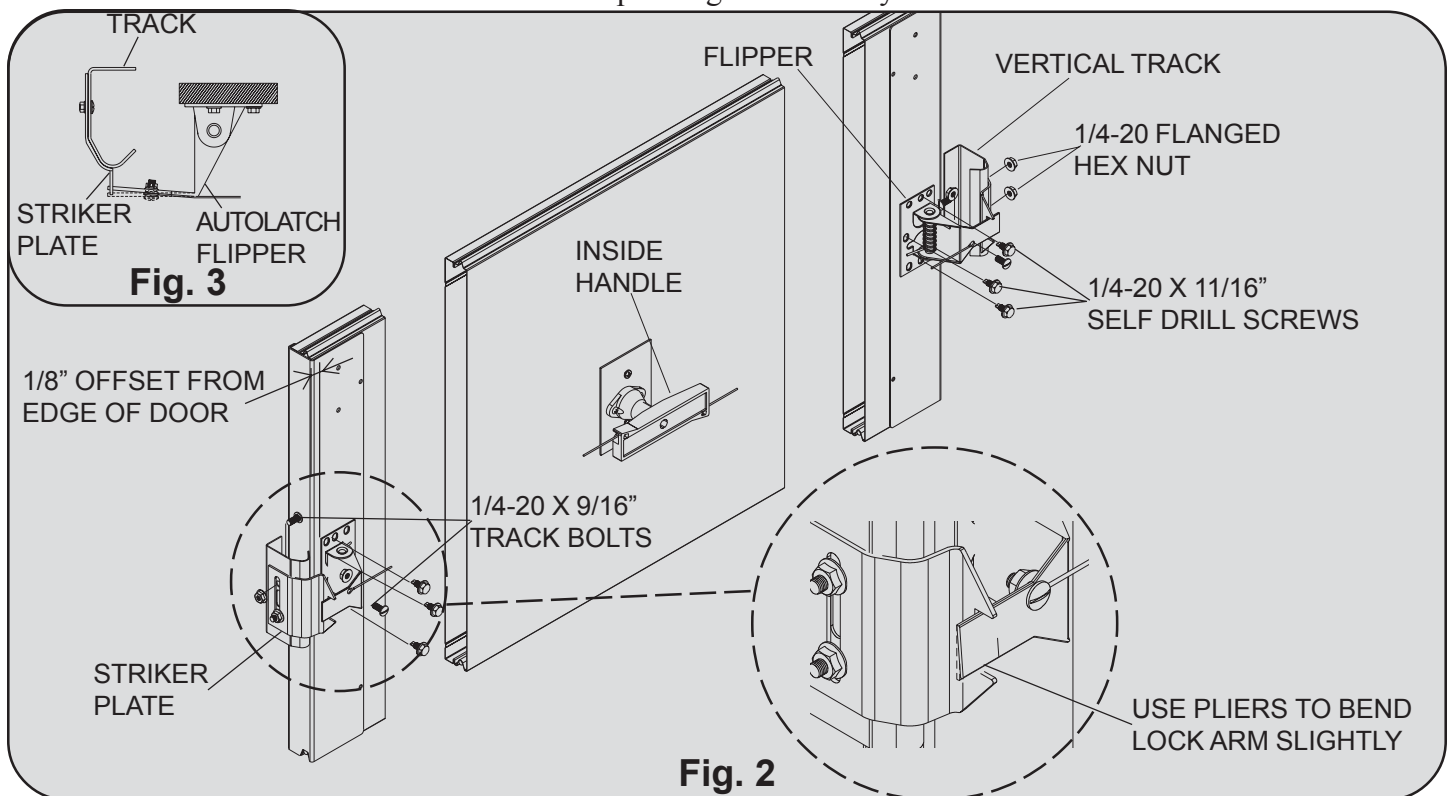

Fig. 2
8300/8500 Series & Wood doors (see Fig.2), place the lock section face up on (2) padded sawhorses for a single car door or (3) padded sawhorses for a double car door. Locate the middle of the center stile, measure the distance from the end of the section to the middle of the center stile. Turn the section face down, transfer the measurement and mark a light vertical line, then mark a horizontal line at half the section height. Align the 7/16" diameter hole of the lock backup plate at the intersection point of the horizontal and vertical marks, use the lock backup plate as a template to mark the (3) holes, remove the lock backup plate and drill (3) 3/4" diameter holes through the section.
Locate the autolatch striker plates over the pre-punched holes in the vertical track nearest the center of the lock section (see Fig.2). Fasten the striker plates to the vertical track using (2) 1/4-20 x 9/16" track bolts and flanged hex nuts. Align the autolatch flippers such that the arm will engage the striker plates. Position the autolatch flipper 1/8" from the edge of the section and secure it to the section with (3) 1/4-20 x 11/16" self drilling screws (wood doors will use 1/4-14 x 1" lag screws). Bend the bottom edge of the Autolatch flipper arm away from the door slightly for smoother operation (**On 9900 Series doors, bend the autolatch flipper toward the striker plate until it is able to engage** (see Fig. 3). Feed one end of the lock cable through the slotted hole of an Autolatch flipper and secure with (1) 1/4-20 x 9/16" track bolt. Pull the cable taut, but